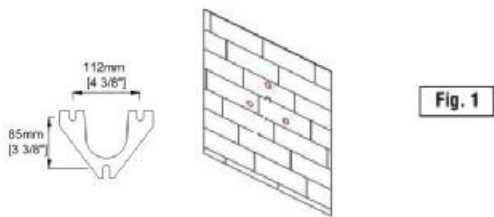

Fig. 1
2. Drill mounting holes for fixture as shown in Fig. 1.